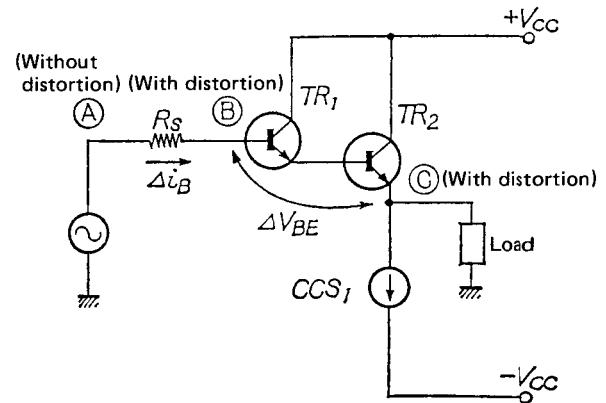

Fig. 2 Distortion in emitter-follower
In the power stage, the voltage, current and junction temperature (heat generation) vary acutely so that the current amplification factor (β) of power transistors or the voltage between base and emitter (V_{BE}) changes with distortion. Normally, in the emitter-follower, only the distortion (ΔV_{BE}) due to the exponential characteristic is noted (which occurs between (B) and (C) in Fig. 2). As the power stage is not driven by a constant voltage, the distortion between (A) and (B) due to the non-linear portion of change of the base current (i_B) caused by β change cannot be ignored.